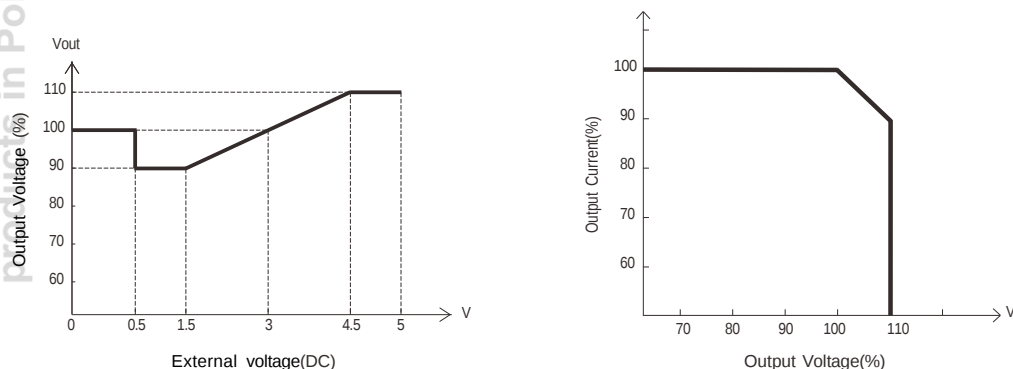

Figure 3-2
(2) Output voltage can be adjusted between 90%~110% of the rated value. The characteristics of output voltage and external DC voltage source and the characteristics of output current and output voltage refer to Figure 3-2.
(3) When the output is tuned to a higher voltage, please notice that the load current should be decreased accordingly. The output wattage of each unit should not exceed its rated value under any circumstances.